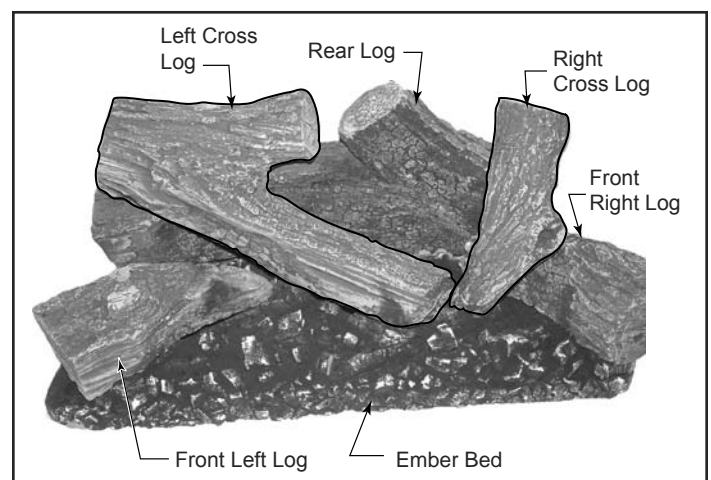

Figure 3.30 - Completed Installation
4. Install the left cross log by engaging the hole on the bottom with the pin on the left side of the rear log. Set front side of cross log on notch in ember bed. (Figure 3.30)
5. Install the right cross log by engaging the hole on the bottom with the pin on the right side of the rear log. Set front edge of cross log on ember bed as shown in Figure 3.30.